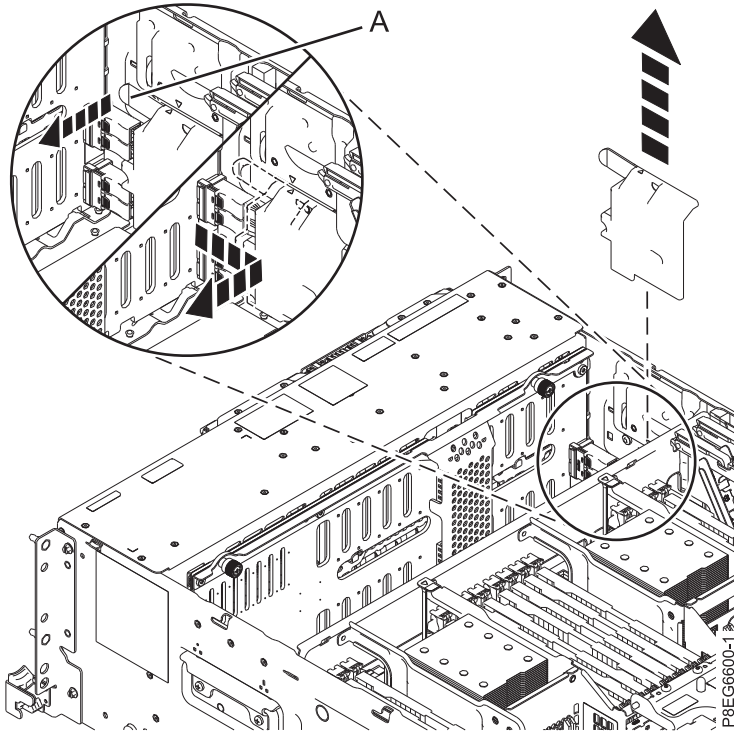

Figure 1. Removing the SAS cable cover
6. Remove the SAS cable cover from the side of the chassis. Grasp the handle of the cover and pull it out to unlatch it. Pull the cover back in the direction that is shown until the cover can be removed. See Figure 1 on page 4.